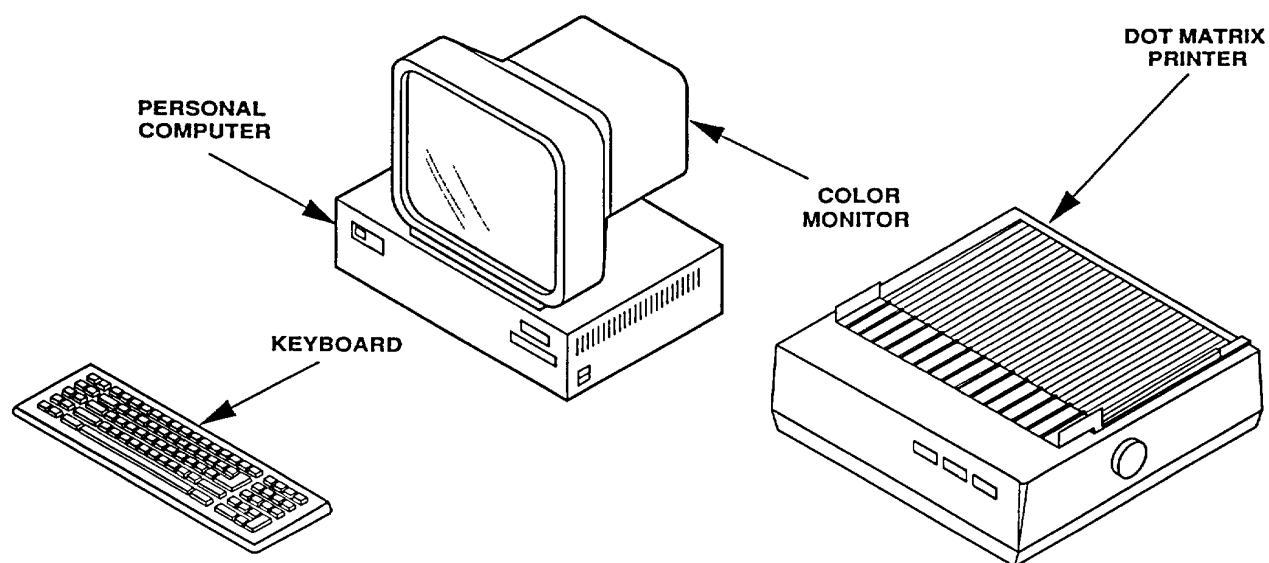

Figure 1-3. IBM-PC/AT Compatible Computer (Typical).
**1.11.3 IBM-PC/AT Compatible Computer.** Major components (figure 1-3) of computer are as follows: